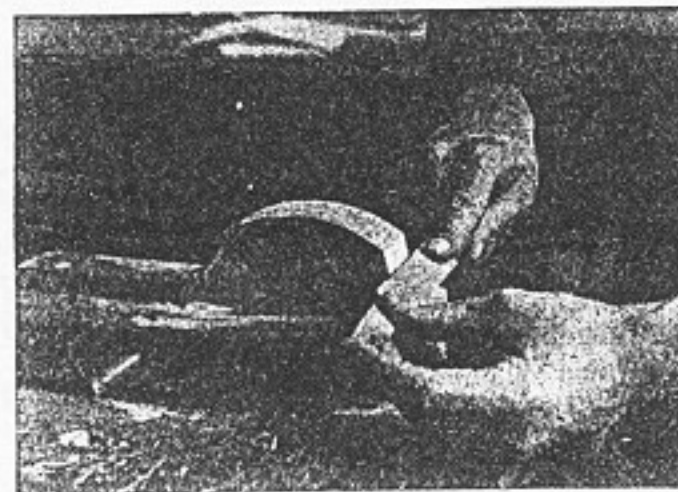

Fig. 321. Sanding concave surface, sandpaper wrapped around half-round file.
5. Concave surfaces are sanded with the sandpaper wrapped around a rounded stick or a file (Fig. 321).
6. Two or more boards having identical curved edges are clamped together while the edges are being smoothed and sanded (Fig. 321).